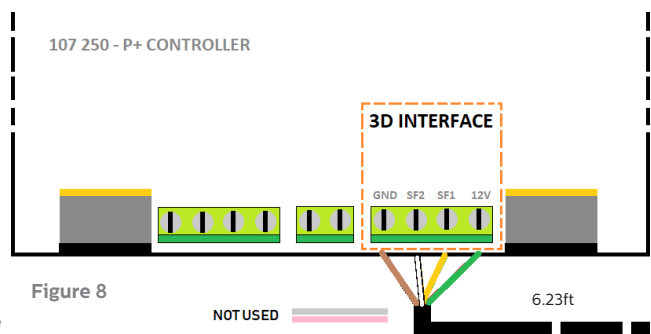

Figure 8
**5.1** Assuming the Panachrome+ controller has already been installed, connect the Smart 3D processing box using the 1.9m /6.23ft cable provided (use figure 8 as reference).